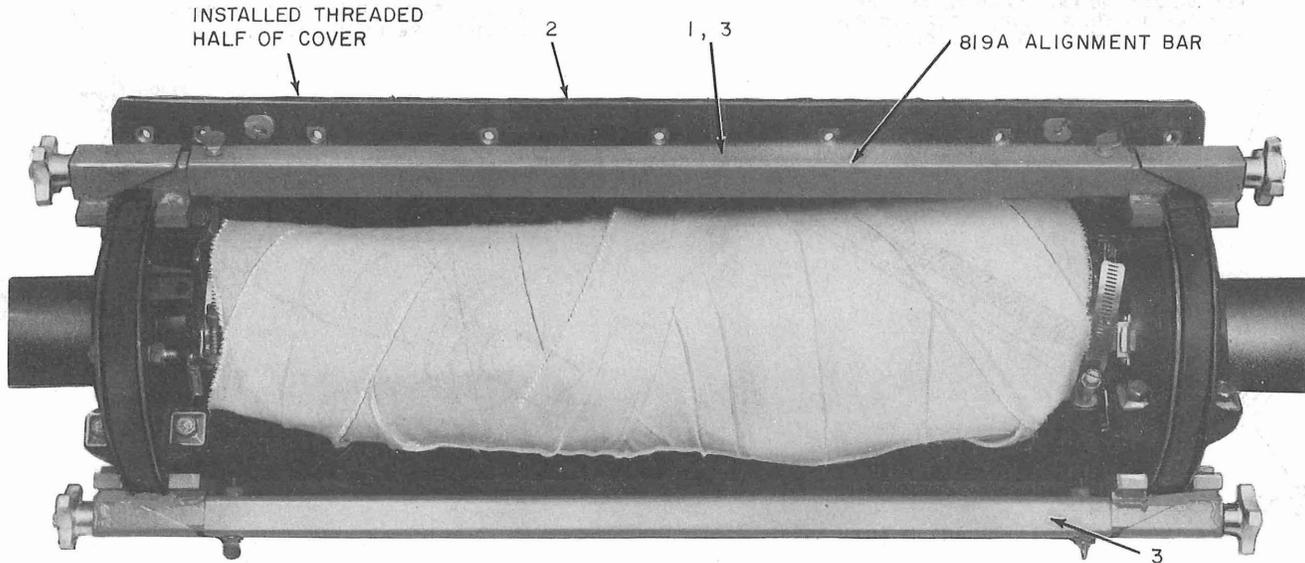

Fig. 44—Installing Cover Halves
6.05 Procedures for installing 2-type cover halves on end plates that were held in alignment during splicing by use of 819A alignment bar are outlined in Fig. 44.